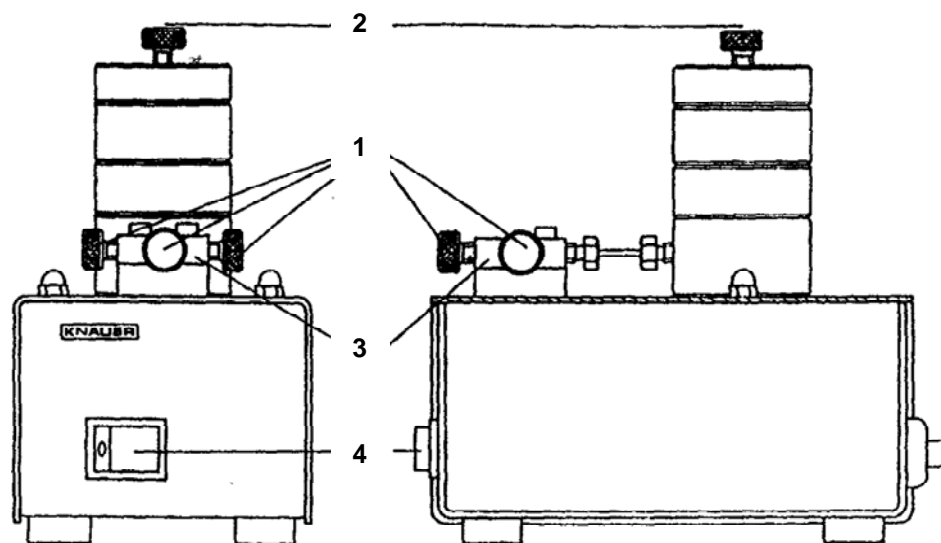

Fig. 1 *General View of the KNAUER Mixing Chamber*
The chamber of the instrument (Fig. 1) is composed of four (preparative version three) parts and is set on a housing together with a four-way 1/16" (1/8") capillary connector, which is used as inlet connection. The chamber and the connector are connected by a stainless steel capillary. The four-way capillary connector already functions as a premixer.
2. Connect the outlet of the mixing chamber (2, Fig. 1) to the injection valve, then proceed as above.